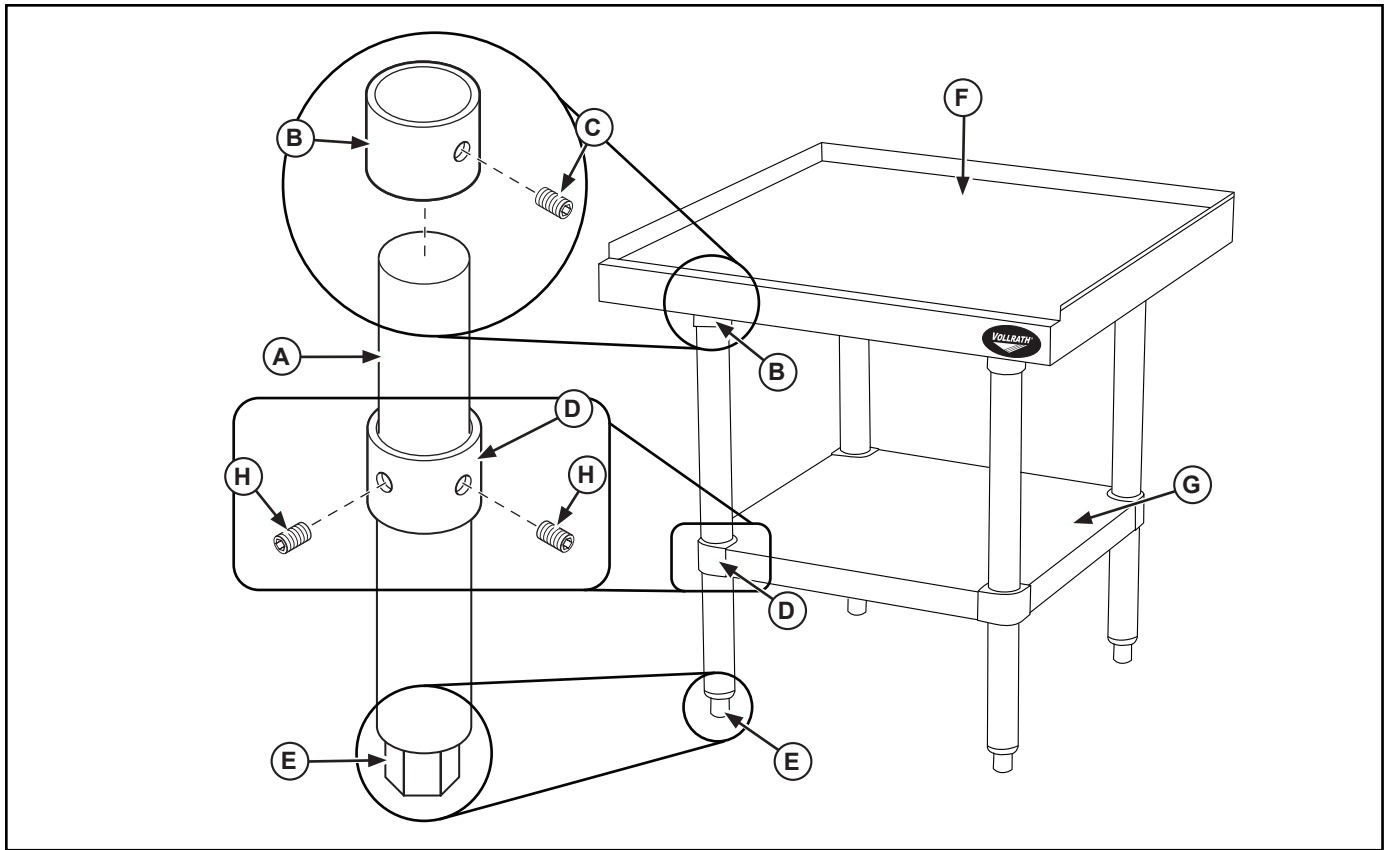

Figure 1. Equipment Stand Assembly.
3. Insert the leg (A) into the support collar (B) until it makes contact with the top (F). It may be necessary to loosen the Allen screw (C) in order to slide leg completely into support collar (B). Repeat for all the legs. See Figure 1.
4. Tighten the screws (C) into the support collars (B).
5. Slide the shelf (G) onto the legs (A). It may be necessary to loosen the Allen screws (H) in order to slide the shelf (G) onto the legs (A).
6. Position the shelf clamp (D) so that the top surface of the shelf (G) is 8" (20.3 cm) from the floor.